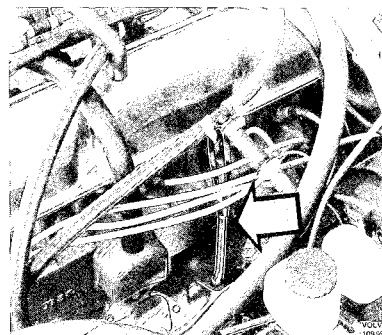

Fig. 1-13. Oil dipstick
1. Check to make sure that the oil level in the engine is between the "Max" and "Min" marks on the dipstick (see Fig. 1-13).